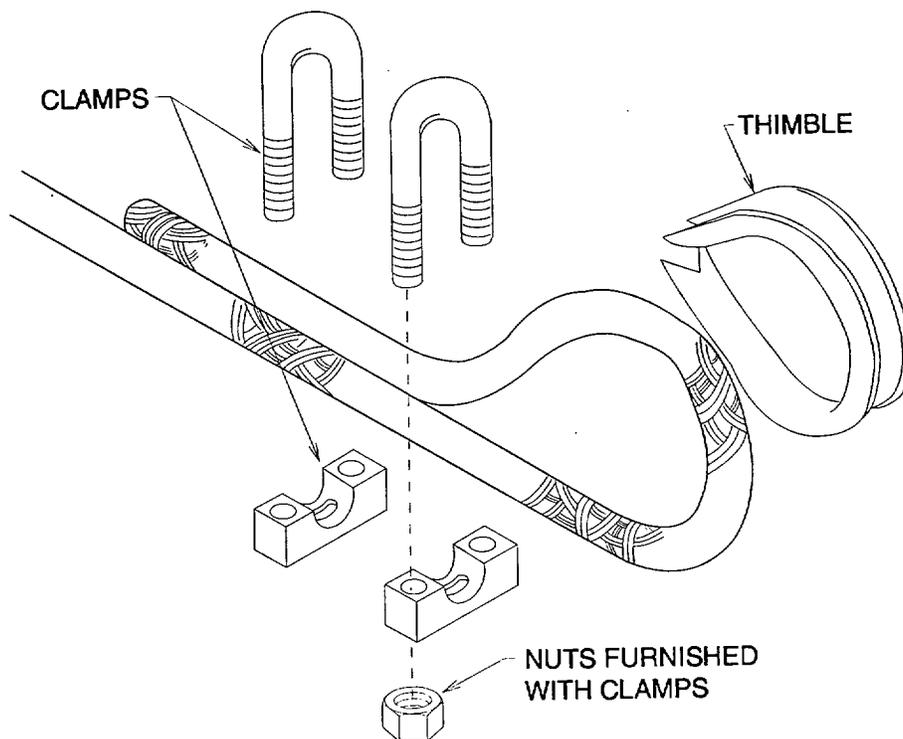

Figure 4-15. Installing Wire Rope Clamps
- (4) Thread wire rope through pulley block on far side. The hand hoist provided in the suspension kit can be used to apply initial tension to the cable.
- (5) Make a loop of wire rope approximately 6 inches from one rope end and insert thimble into loop (figure 4-15).